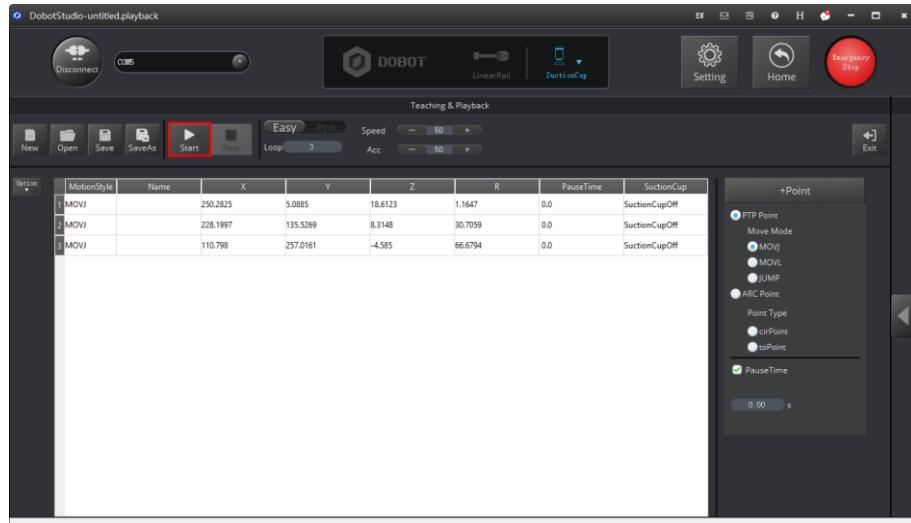

Figure 2.25 Click Start
6. Click **Start** to perform the motions taught above, as shown in Figure 2.25.